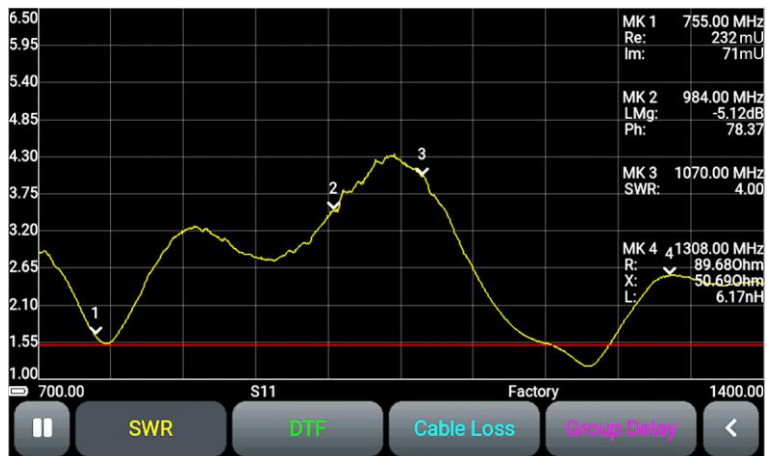

Figure 10.11-VSWR plot
10.6.1. The plot shows the voltage standing wave ratio (VSWR), (Figure 10.11).